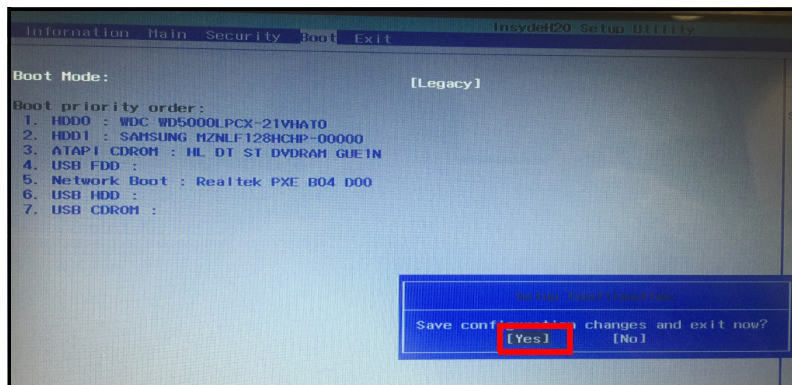

Figure 2-59. Save Configuration Changes and Exit
9. Press **F10** and confirm your selection to save the settings and exit the BIOS Menu (Figure 2-59). The system will restart automatically.